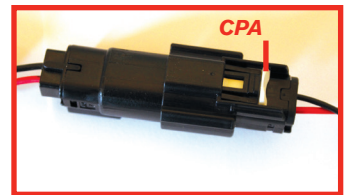

Fig. 6
4. Insert the 2-pin connector end of the T-harness into the 2-pin connector of the fuse box harness. See Fig. 6. Lock harnesses to connector by pushing the CPA forward.